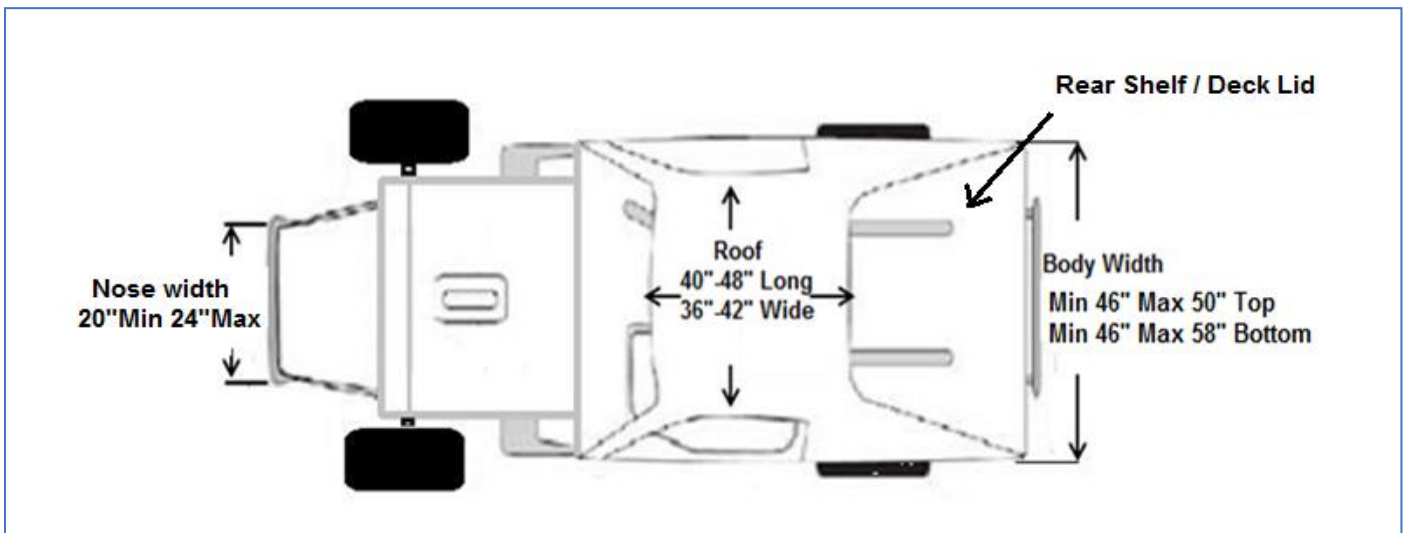

Figure 4
- **Deck Lid** means the horizontal flat panel behind the rear hoop that covers the differential and fuel tank. (Figure 4)
9.1 Roof panel length must be between 40" min 48" max. Roof panel width must be 36" min 42" max. (*Figure 4*)